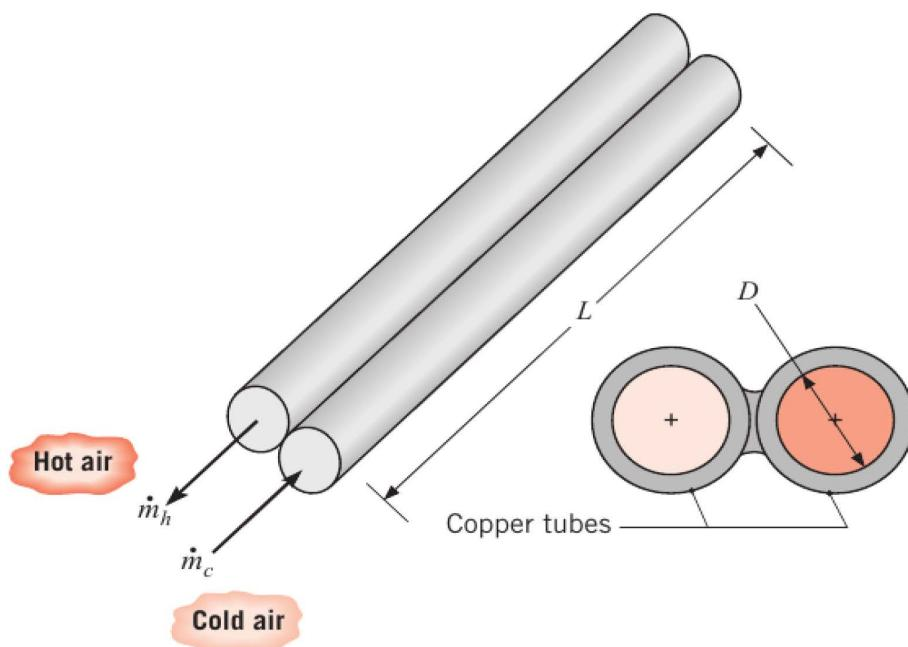

Figure 23: Twin-tube counterflow heat exchanger.
- a) A twin-tube counterflow heat exchanger (Fig. 23) operates with air flow rates of 0.003 kg s^{-1} for both hot and cold streams. The cold stream enters the heat exchanger at 280 K and must be heated to 340 K using hot air that enters the domain at 360 K . The average pressure of the airstreams is 1 atm and the maximum allowable pressure drop for the cold airstream is of 10 kPa . The tube walls may be assumed to act as fins, each with an efficiency of 100%.